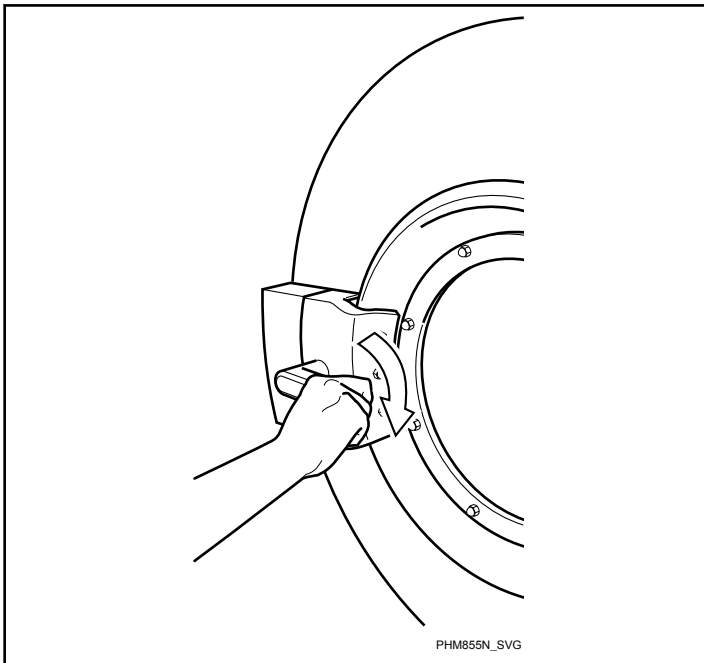

Figure 40
2. Turn the door handle clockwise and swing the door left to open it. Refer to *Figure 40*.